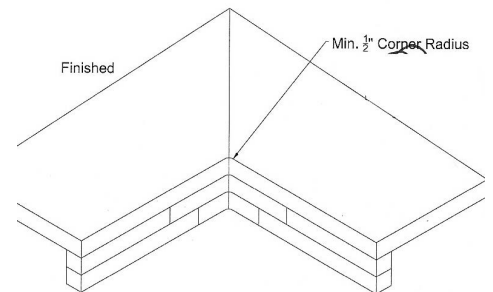

Figure 21C
- Radius all inside corners minimum 1/2" (13mm) (Fig. 21C)